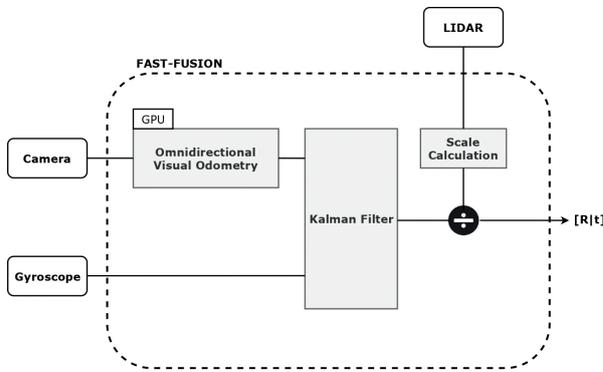

Figure 1. Global system architecture [1].
The proposed system aims to localize in real-time a ground robot in an agricultural environment. As shows in Figure 1, a fusion of common sensors with a monocular omnidirectional Visual Odometry (VO) algorithm is performed. The entire system runs on top of a low-cost microprocessor, a Raspberry Pi 3B. An